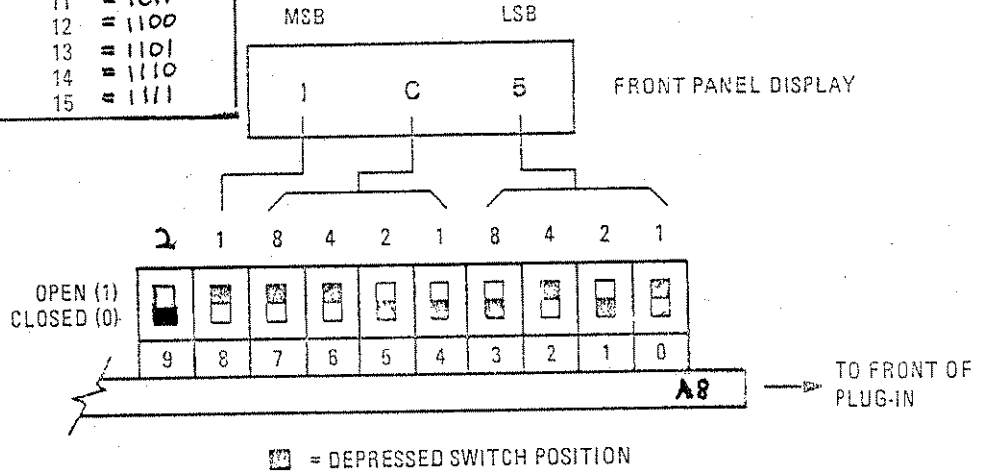

Figure 5-12 ~~A8S1~~ and ~~A8S2~~ Frequency Calibration Switch Configuration
9. Set switch A8S1 for the hexadecimal value displayed in the 83592A POWER display. Refer to Figure 5-11 for the location of the frequency calibration switches. Refer to Figure 5-12 for an illustration of the calibration switch configuration.